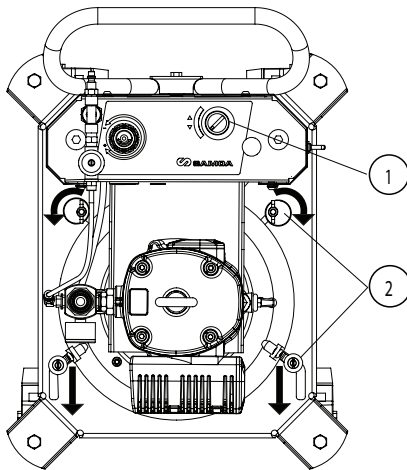

Fig. 6
- Turn the lifter control (pos. 1) (Fig. 6) to the “up” position to lift the pump and the follower plate to the top.
- Open the pail fasteners. (pos. 2) (Fig. 6).
- Turn the lifter control (pos.1) to the “off” position (Fig. 6). The pump and the follower plate will approximate to the pail.
- Close the pail fasteners (pos. 2) (Fig. 6).